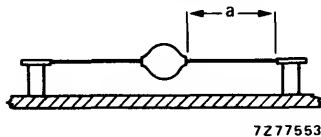

Fig. 3 Mounting method 2.
2. Thermal resistance from junction to ambient when mounted to solder tags at a lead length  $a = 10$  mm; Fig. 3